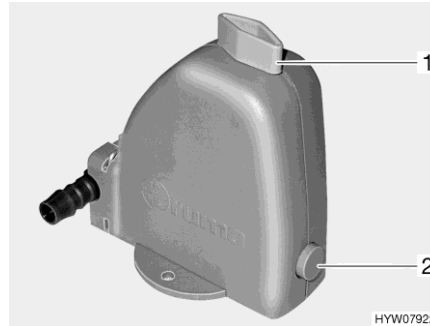

Fig. 90 Safety/drainage valve
The heater is equipped with a safety/drainage valve (Fig. 90). The safety/drainage valve prevents water for the production of hot water from freezing, when there is frost and the heater is not switched on.
- Close the safety/drainage valve. Turn the knob (Fig. 90,1) perpendicular to the safety/drainage valve and push the push button (Fig. 90,2) in.
- Open the safety/drainage valve. To do this turn the knob (Fig. 90,1) parallel to the safety/drainage valve. The push button (Fig. 90,2) jumps out. The domestic water container is emptied to the outside through the safety/drainage valve.